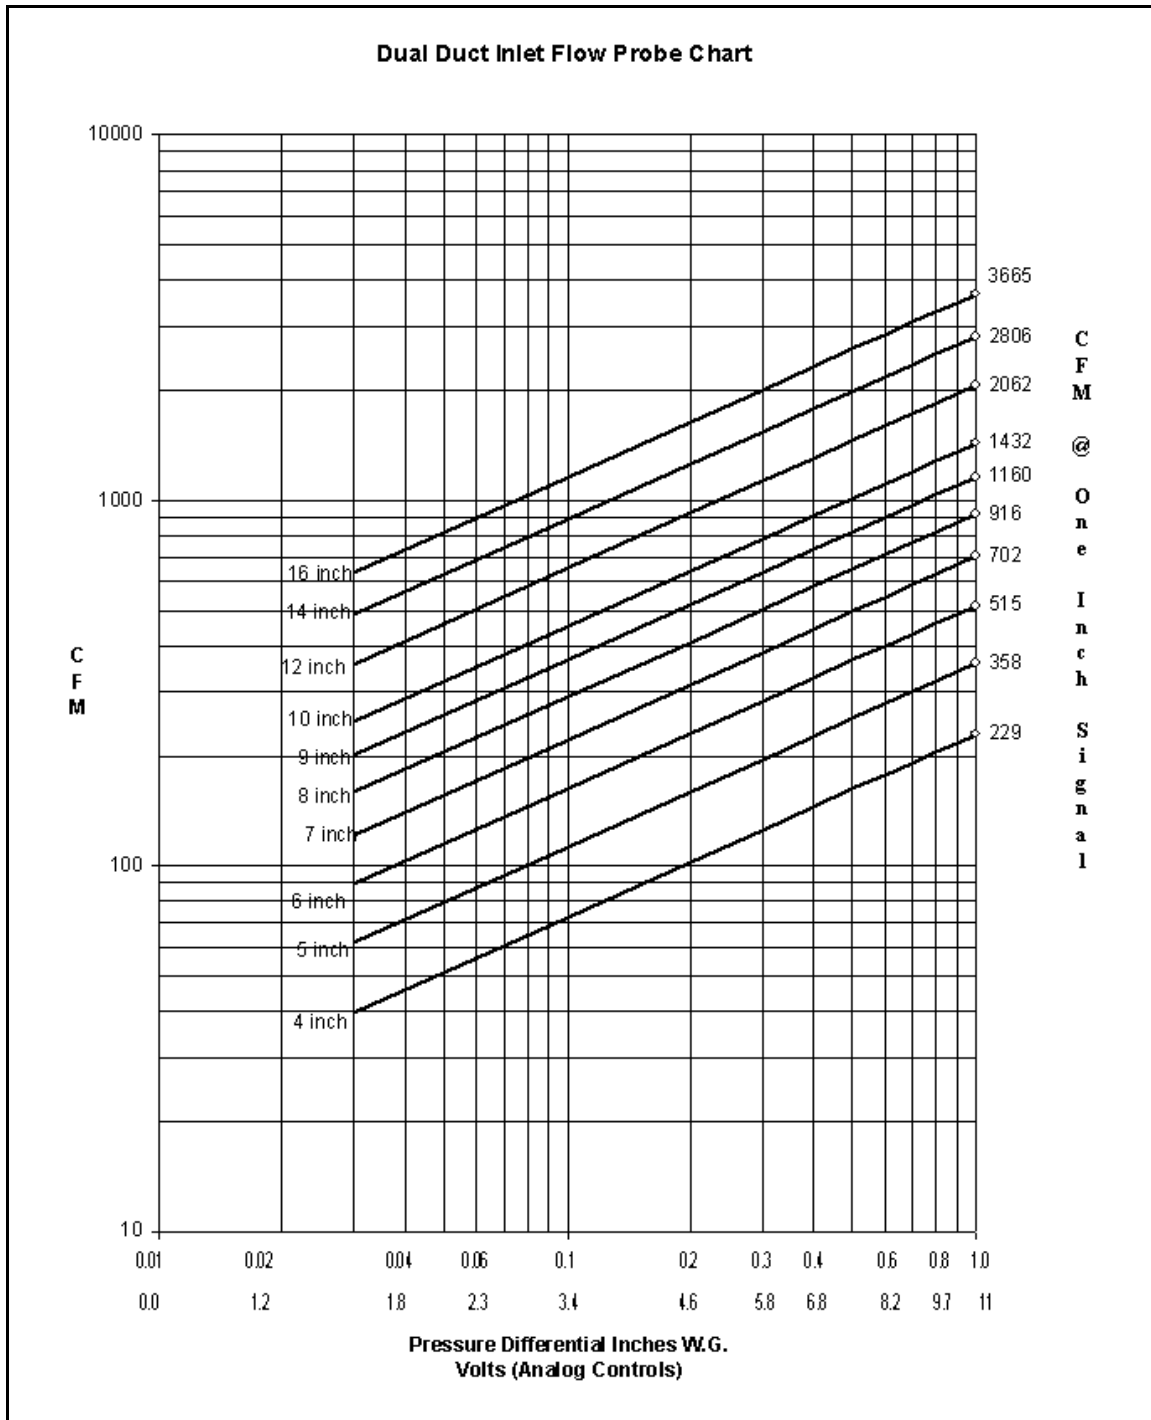

Fig. 4A — Dual Duct Inlet Flow Probe Chart
NOTE: Refer to wiring diagram attached to each unit for specific information on that particular unit. Unit airflow should not be set outside of the range noted in Fig. 4A-4C and the performance data section of this document.
Each unit is equipped with an amplifying flow probe that measures a differential pressure proportional to the airflow. The relationship between flow probe pressures and cfm is shown in the Flow Probe Graphs (Fig. 4A-4B). This chart is attached to each unit. There are several conventions (and no universally accepted method) in use for representing this flow factor:
- G. Read the differential pressure and enter the Probe Chart to determine the airflow in the terminal unit. This chart is shown in Fig. 4A-4B and is also attached to the side of each unit. For example, a differential pressure of 0.10 in. w.g for size 8 units yields an airflow of 275 cfm. Volume controller for units is shown in Fig. 5.
- a. Use charts on pages 7 and 8, Fig. 4A-4C to correlate into cubic feet per minute (CFM).
4. Check “Actual Flow” voltage on terminal “OUT” and “-” for 0 to 10 vdc). Use Fig. 4A-4C to correlate into cfm.